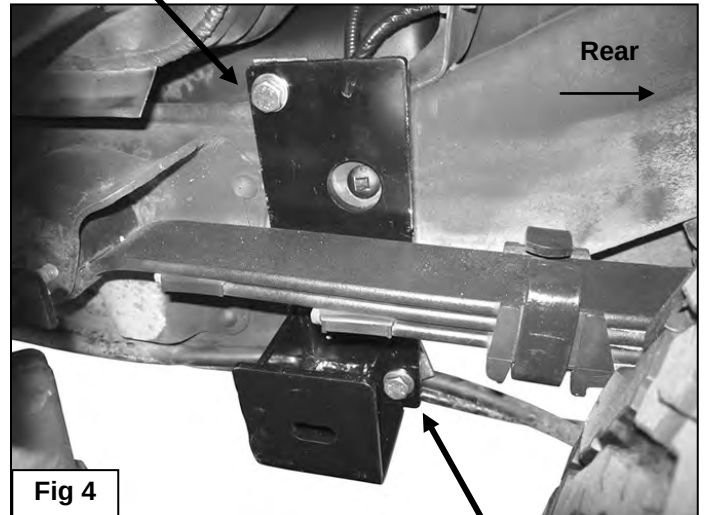

Fig 4
4. Move along the side of the vehicle to the rear mounting location at the front of the leaf spring mount. Select (1) 12mm Hook Plate, **(Figure 2A)**. Hook the Hook Plate onto the top edge of the frame, **(Figure 2B)**. Position the driver side rear Mounting Bracket up against the frame between the leaf spring and frame, **(Figures 3A & 3B)**. Attach the rear Bracket to the top Hook Plate with (1) 12mm x 45mm Hex Bolt, (1) 12mm Lock Washer and (1) 12mm x 24mm Small Flat Washer, **(Figure 4)**. Leave hardware loose at this time.